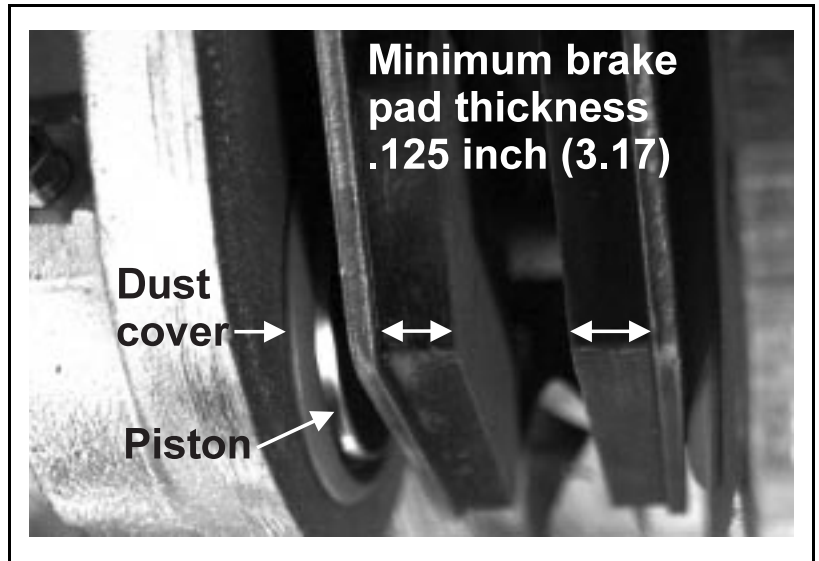

FIGURE 2 (MSSMA426AE)
4. Check disc surface. Replace if warped or worn beyond specifications (FIGURES 2 and 3).
5. Check the brake pads for wear as specified on the preventive maintenance schedule. Replace brake pads worn to less than .125 inch (3.17) (FIGURE 2). Always replace both brake pads at the same time.